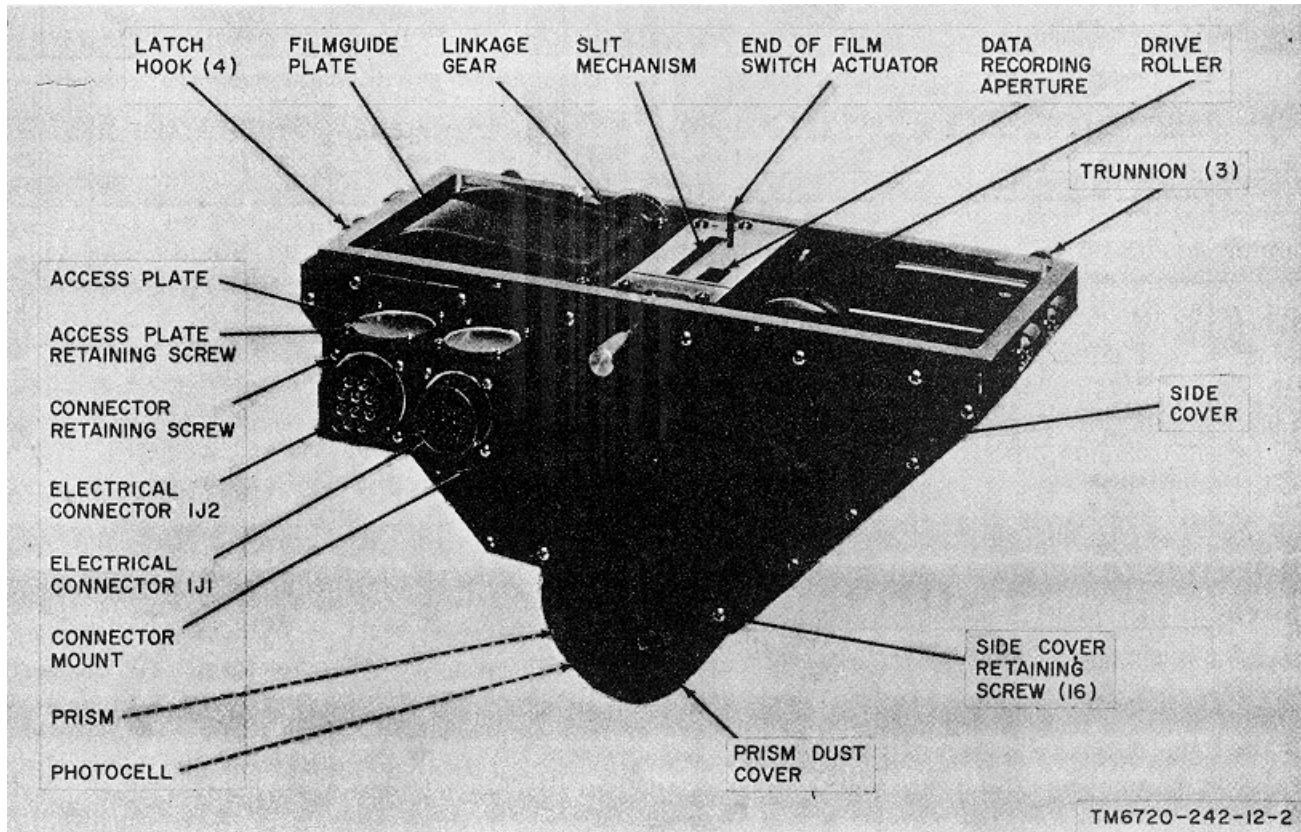

Figure 1-2. Body, front view.
a. *Body* (fig. 1-2). The body achieves the photographic coverage of the camera. It includes the prism, lens, aperture and slit mechanisms, image motion compensation (IMC) mechanism, and the drive mechanism.
- b.* Remove the prism dust cover (fig. 1-2) and check the prism for any damage. After the prism has been checked, replace the dust cover.